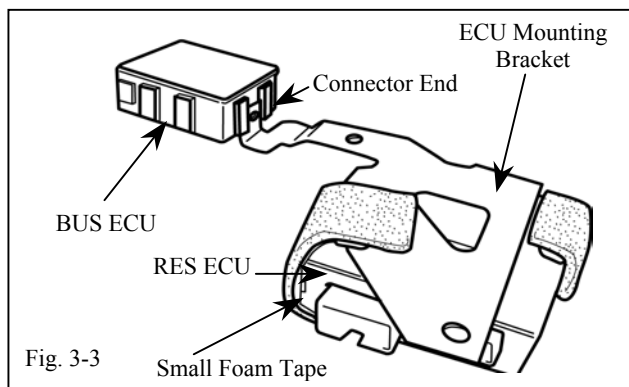

Fig. 3-3
- (c) Apply one piece of small foam tape to the other side of the RES ECU and the bracket, as shown. (Fig. 3-3)
- (d) Insert the BUS ECU into the indicated slot on the mounting bracket. (Fig. 3-3)